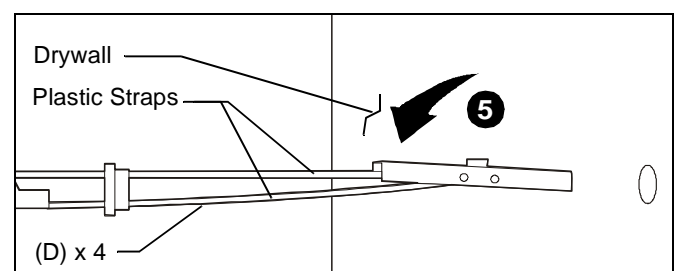

Figure 4
5. Hold metal channel on anchor (D) flat alongside plastic straps and slide channel through hole. (See Figure 4)